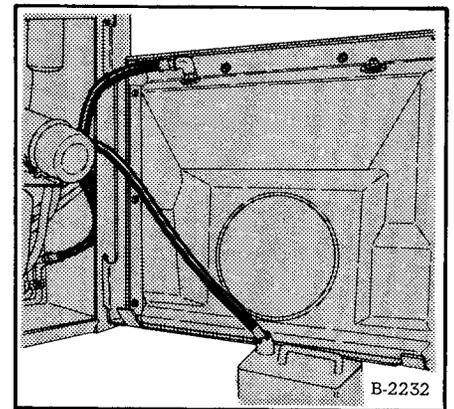
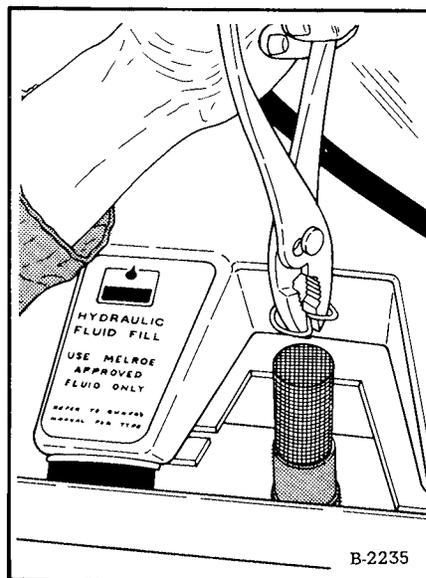

Fig. 1-30 Draining Reservoir (520, 530)
Fig. 1-31 Removing Filler Pipe Section
(1) Remove the hose from the outlet elbow on the oil cooler (long hose) and put the end into a clean reservoir (Fig. 1-30).
(2) After all fluid has been removed, connect the hose to the cooler.
(3) Remove the spring clip and remove the screen from the reservoir filler pipe (Fig. 1-31). Wash the screen in clean solvent and install it in the filler pipe. (Clean the reservoir screen only when necessary.)